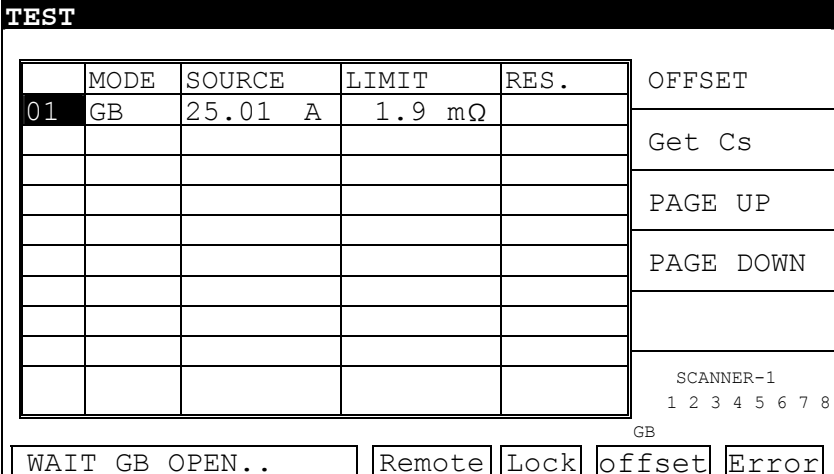

Figure 4-11
5. When the test is end, if judged as PASS, the screen as *Figure 4-11* shown.